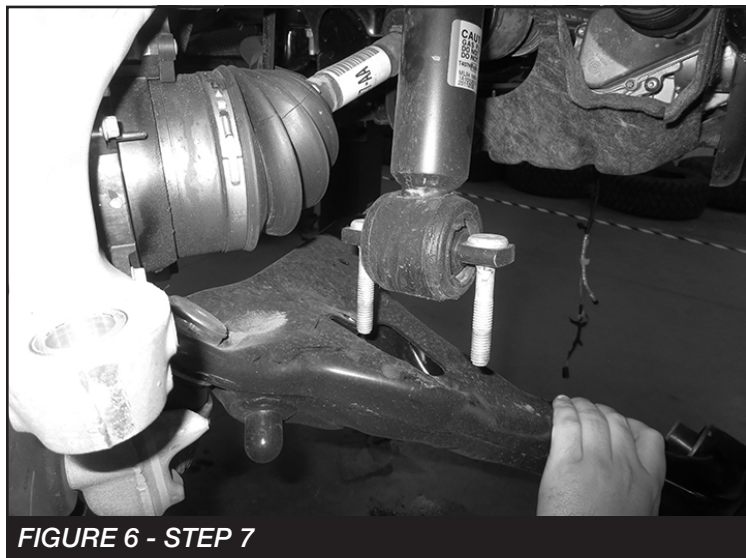

FIGURE 6 - STEP 7
7. Pull down on the lower control arm to remove the lower strut studs. **SEE FIGURE 6.** Remove the top strut nuts then remove the strut from the vehicle. **NOTE: Mark the orientation of the strut by marking the outside (toward the wheel).**